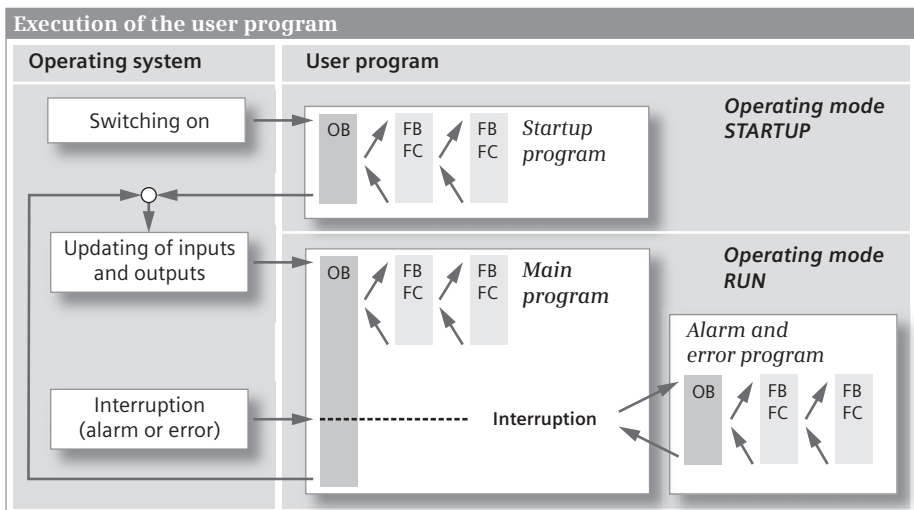

Fig. 1.8 Execution of the user program
The user program is usually divided into individual sections called “blocks”. The organization blocks (OB) represent the interface between operating system and user program. The operating system calls an organization block for specific events, and the user program is then processed in it (Fig. 1.8).